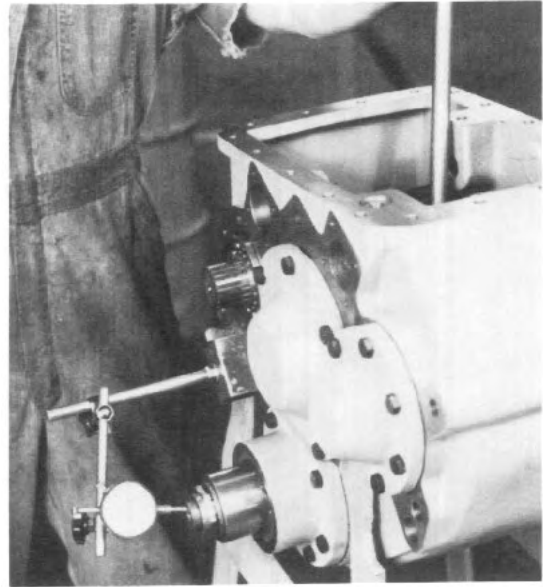

Fig. 18
- Check rear output shaft end float between shaft and housing. End float should be between .010 and .015 inches (See Fig. 18).